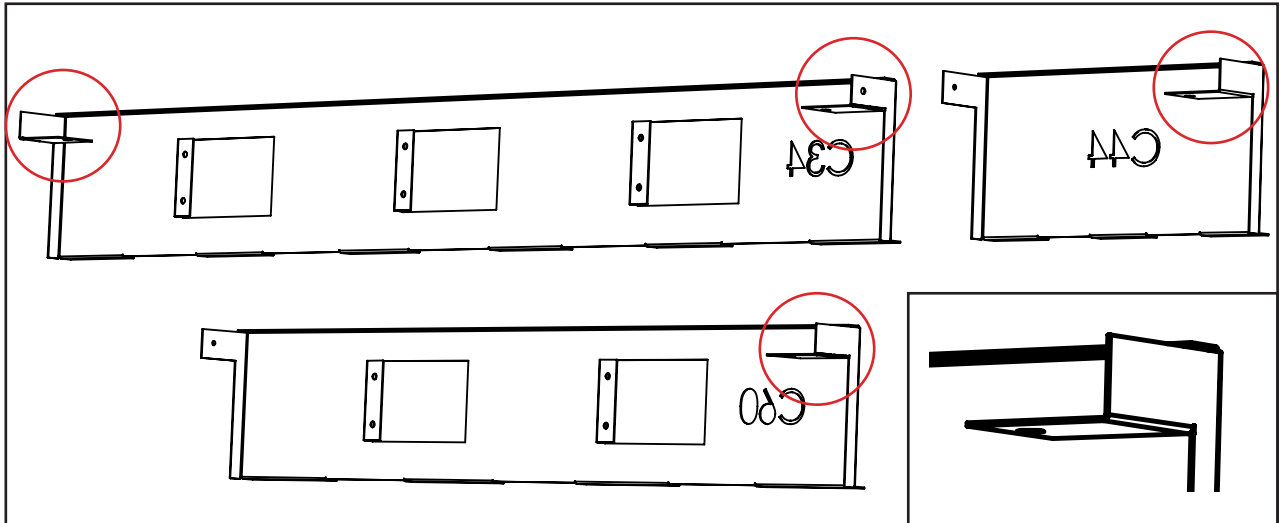

Figure 23. Rear Panel hand bent flanges
Step 2: All the Units use the C34 panel as a base. If installing a C44, use both the C34 and C44 panels. If installing a C60, use both the C34 and C60 panels. If installing a C72, use all three panels. Once you have your required panels locate the flanges in the figure 23 below. Bend these flanges inwards 90deg to match the figure 23 below.
Step 3: Verify that all the hand bends shown above are bend inwards 90deg as shown in figure 23.